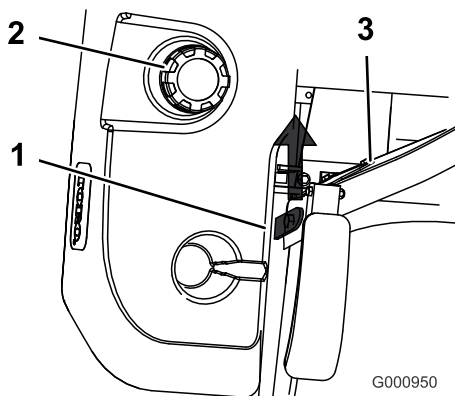

Figure 23
3. Raise the seat up. This allows access to the machine under the seat (Figure 23).